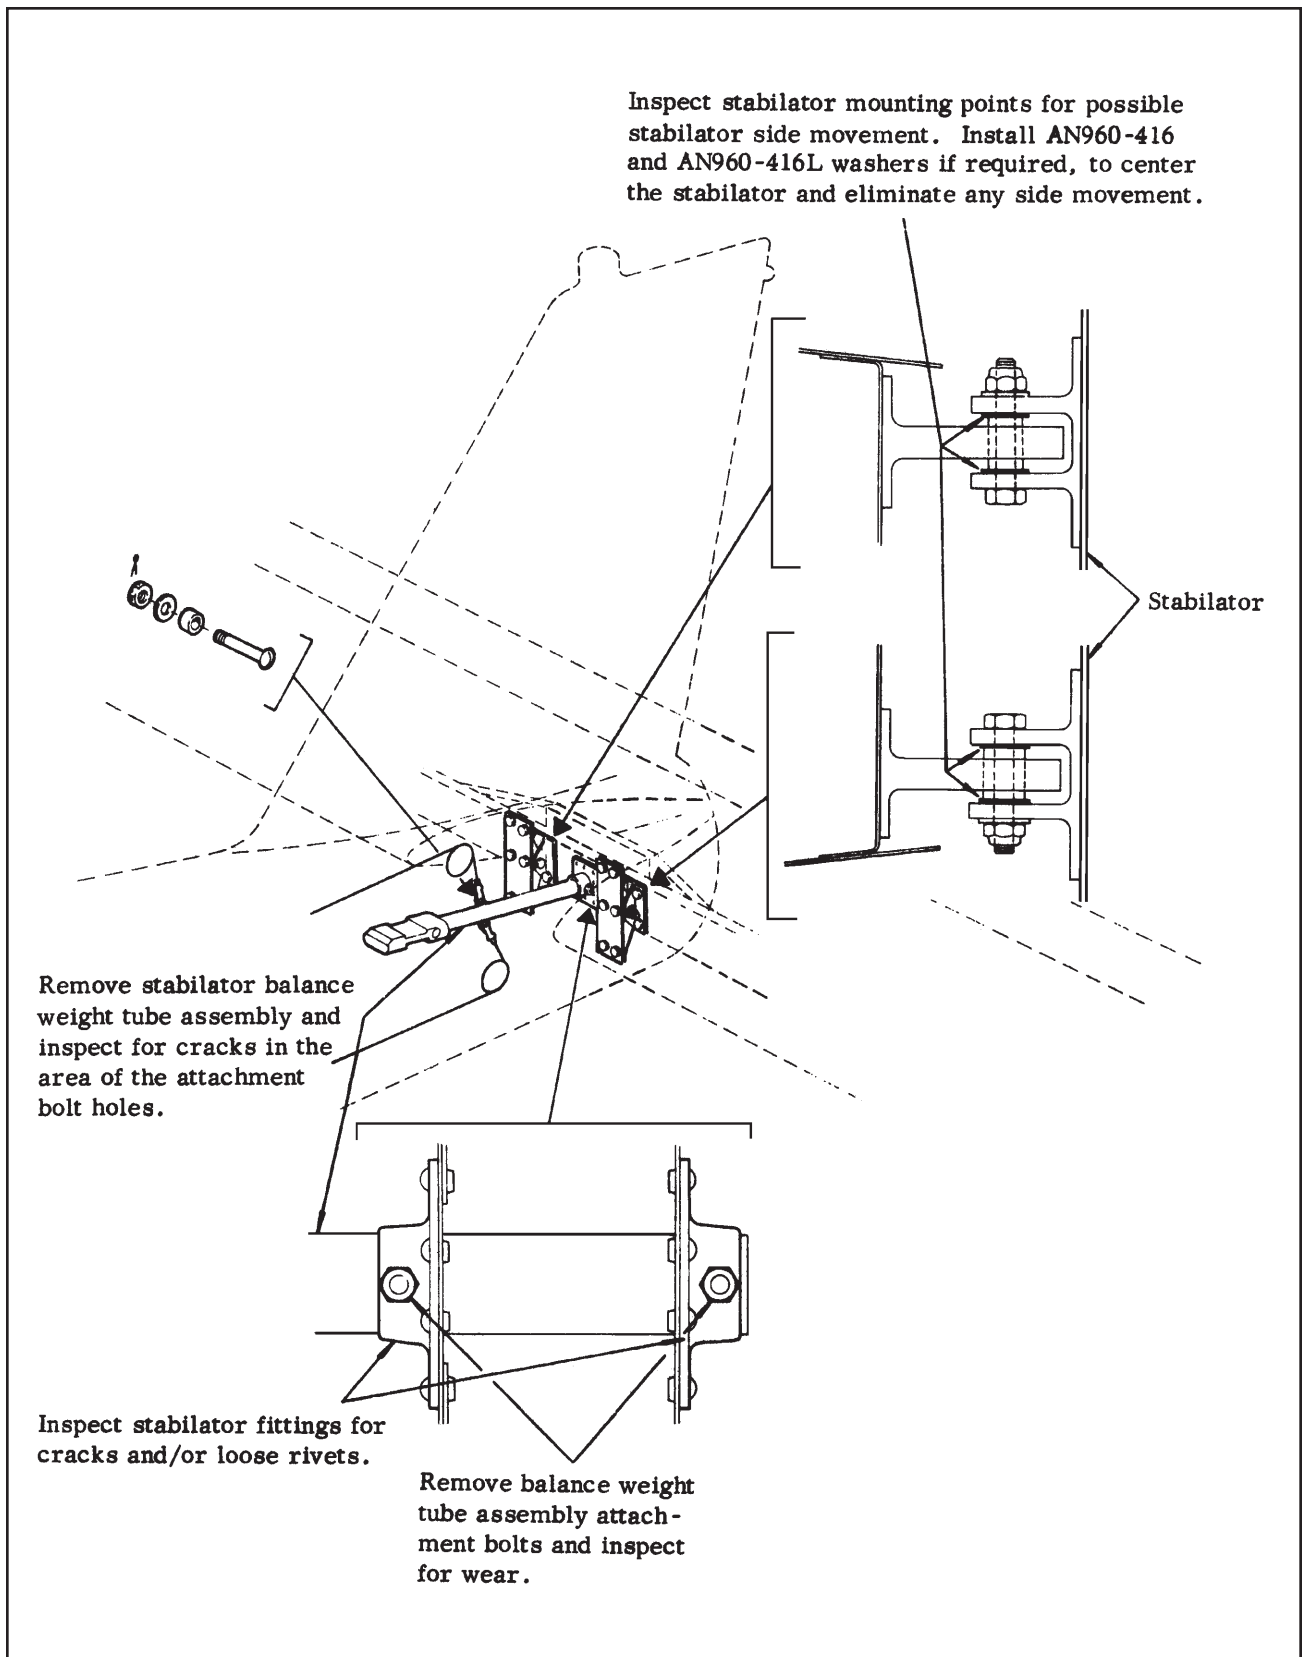

Figure 3-4
- (d) Remove the stabilator balance weight tube assembly attachment bolts as shown in Figure 3-4 and inspect bolts for wear.
- (i) Visually inspect stabilator fittings (P/N 63567-03) for evidence of cracks and/or loose rivets as shown in Figure 3-4.